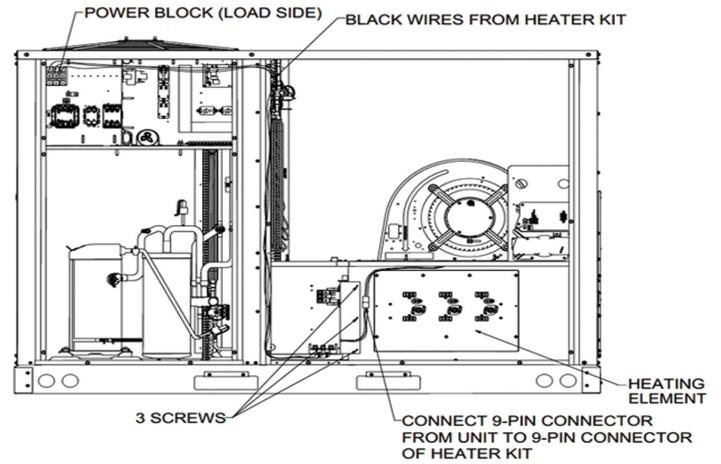

Figure 4
6. Install electric panel part of the kit to the left side of the heater box using 3 screws supplied with this IO (Figure 4).
9. Connect the plug to the mating 9-pin plug attached to heater kit (Figure 4).
- Route all leads through the blower deck and into the control box as shown in Figure 4.